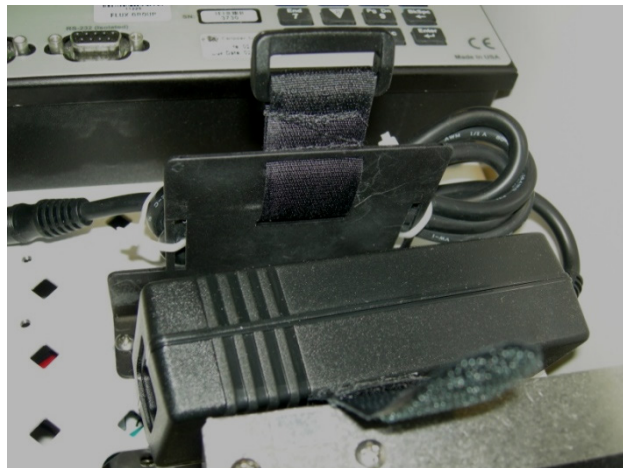

FIGURE F-2. Power supply in mounting bracket
3. Place the power supply on the mounting bracket and secure the power supply's cable to the back of the mounting bracket with a wire tie as shown in FIGURE F-2.